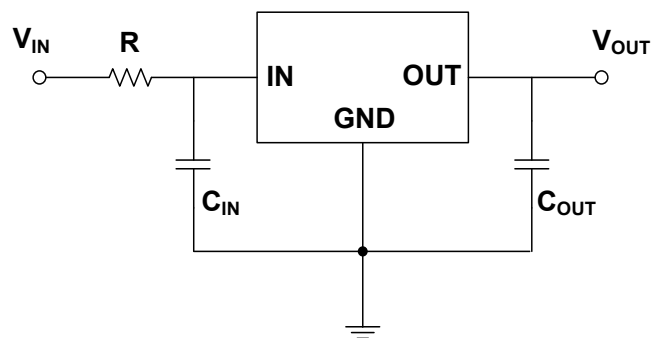

Figure 9-2. Resistance is used at IN
2. Place a resistor with appropriate resistance in series before the IN of the voltage regulator, which can help the voltage regulator share part of the energy in case of surge. The resistance value of the resistance should not be too large. The specific resistance value depends on the application of the circuit. Generally, the resistance value of this resistance does not exceed 20Ω. As shown in Figure 9-2.
For the CJ78L05, CJ78L06, CJ78L08, CJ78L09, it is recommended that the input voltage should not exceed 16V and the peak voltage should not exceed 30V. For the CJ78L12, CJ78L15, it is recommended that the input voltage should not exceed 18V and the peak voltage should not exceed 35V. **When the input voltage of the operating circuit may not meet the application conditions described above, it is recommended to adopt the circuit layout shown in Figure 9-2 in the circuit design.**
The CJ78L series can obtain better transient response with the help of output capacitance. However, if the output capacitor is relatively large, the surge current generated by the charging of the output capacitor will also be large at the moment of power on of the regulator, and the large surge current passing through the regulator may damage the internal circuit. When the output capacitance is large, adopting the circuit design shown in Figure 9-2 will reduce the possibility of damage to the device due to large surge current to a certain extent. It is recommended that the selection of output capacitor should not exceed 20 $\mu$ F. **If the selection of output capacitor exceeds 20 $\mu$ F, it is recommended to adopt the circuit design in Figure 9-2 to reduce the possibility of accidental failure of the device due to large surge current during power on.**
It is recommended that the output capacitor ( $C_{OUT}$ ) should not exceed 20 $\mu$ F. When the output capacitor ( $C_{OUT}$ ) exceeds 20 $\mu$ F, it is recommended to use the circuit layout shown in Figure 9-2. See *Large Output Capacitance* for more details.